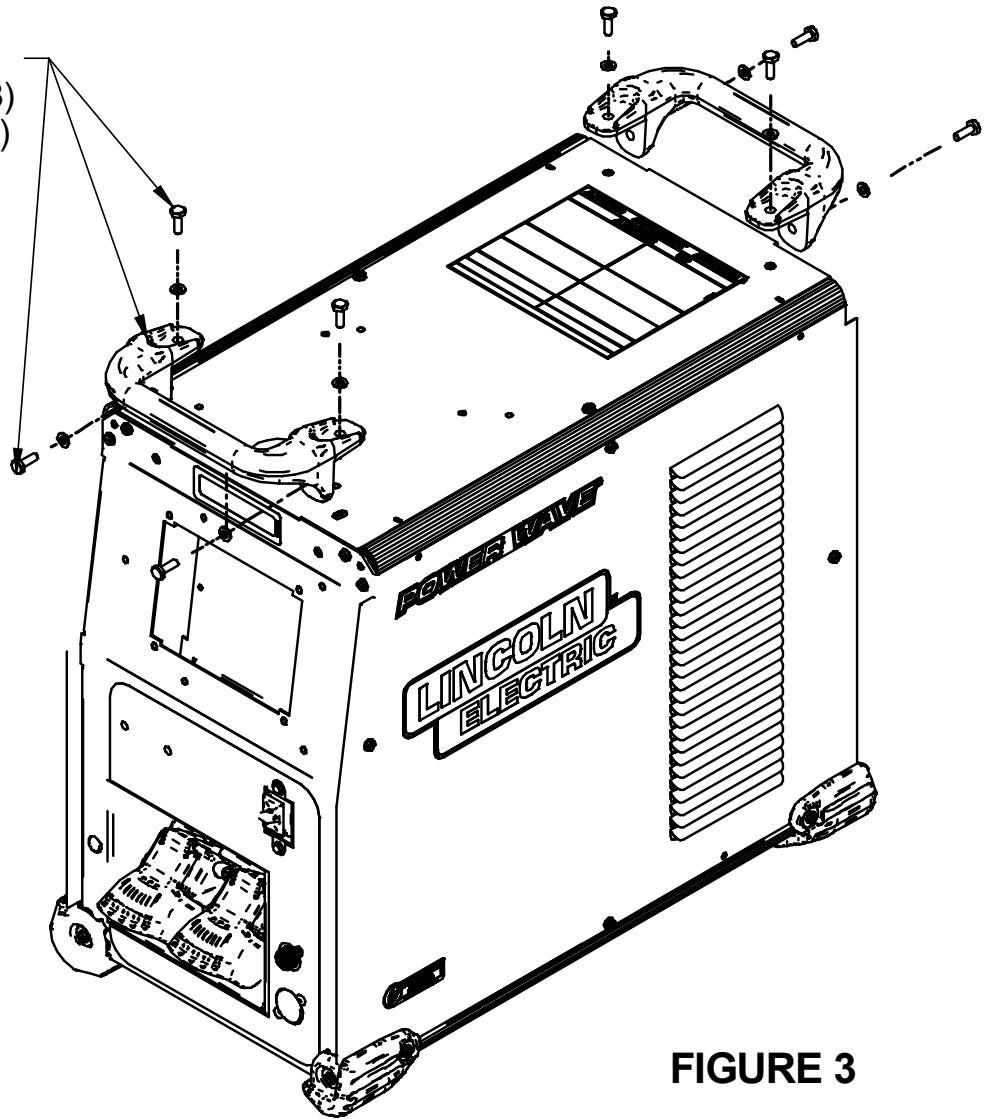

FIGURE 3
5. Remove the two handles by removing the screws and lock washers mounting them, using a 7/16" nut driver or other suitable tool (**Figure 3**). Retain all mounting hardware for reinstalling the handles.